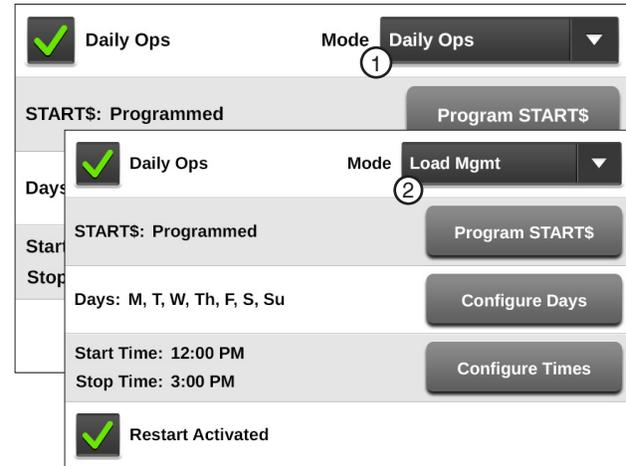

Figure 92-1 Daily Ops Screen
- If the current day is selected in Daily Start/Stop and it is the start time, the START\$ program runs and the machine starts. Refer to Figure 92-1.